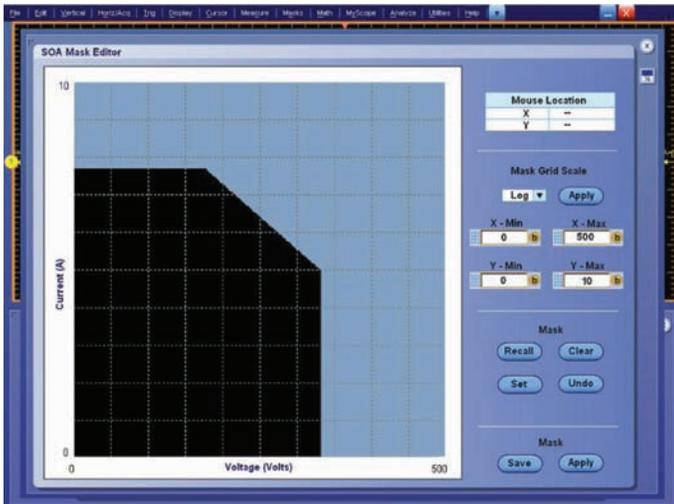

Figure 12. SOA Mask Editor window for DPOPOWER. The X and Y Max. and Min. values are customizable.
- As shown in Figure 12, the SOA Mask editor sets up a mask based on the maximum and minimum voltage and current limits for the transistor, as defined in its datasheet. This enables the evaluation and comparison of the measured SOA of the transistor with the maximum limits defined by the manufacturer. If the data points fall inside the mask zone, they are green to indicate 'pass' and if they fall outside the mask zone, they are red to indicate 'fail'.